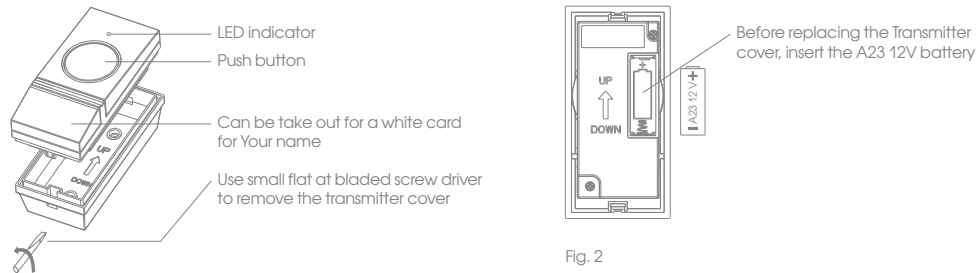

Fig. 1
- To open the Transmitter, slide a screwdriver in the top slot, apply a slight pressure and take off the base of the button (Fig. 1). Insert the one A23 12 V battery respecting the polarity specified inside the housing (Fig. 2). Important: do not lose or stretch the sealing ring.